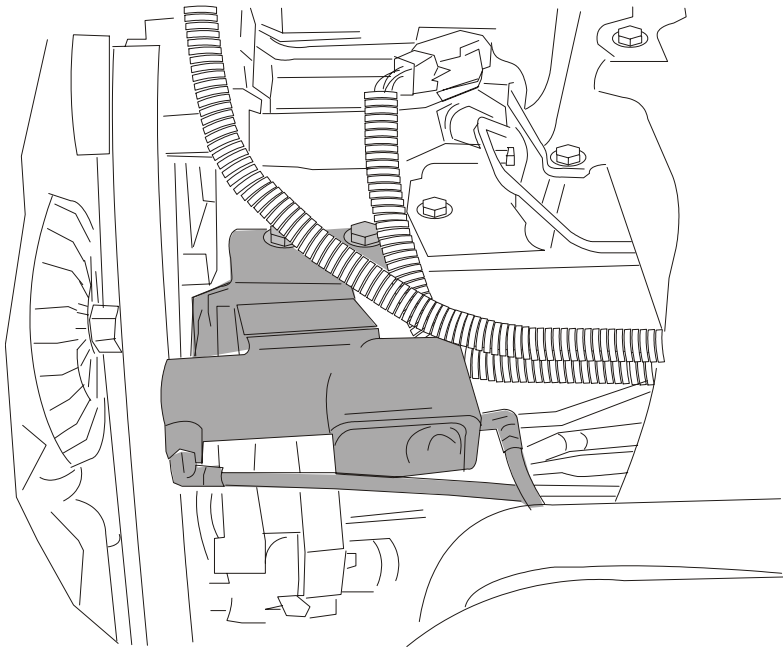

Figure 4.11
- ☐ Locate the two mounting holes on the front top driver side of the cylinder head and mount the throttle controller to this location using the two OEM bolts, with the throttle controller hanging over the side of engine (Figure 4.11). The throttle housing should sit beside the cylinder head, just above the injector pump, with the cable facing rearwards.